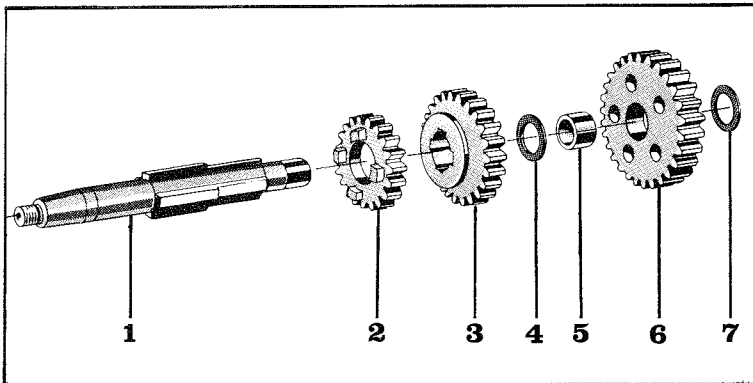

Fig. 4
4. Fit the 5th gear, 3rd gear and 1st gear pinions onto to sprocketshaft as well as the bushing and washers. See Fig. 4.